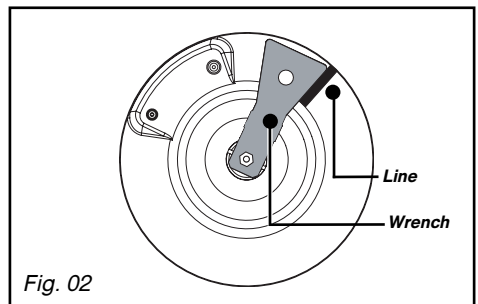

Fig. 02
– **Connection with a flexible rubber hose** reinforced **with screw-on mechanical connectors** (compliant with the XP D 36-112 standard) whose service life is 10 years (Fig. 02).
- Draw a line on the burner plate using a pencil at the place indicated (Fig. 02).